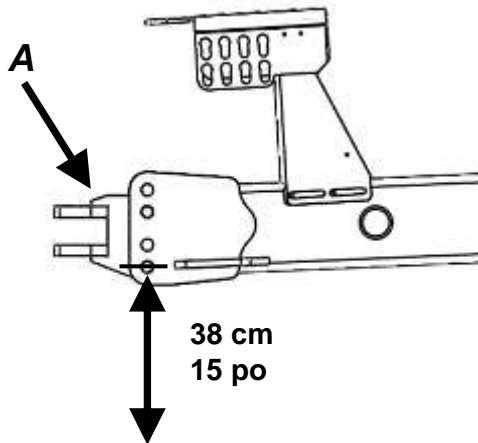

Figure 1
2. To level the applicator, the first hole of the adjustable hitch (starting from the ground) should be at 38 cm / 15 inches from the ground (For applicator with 380 / 80R38 tires) [Figure 1].
3. To adjust the height, use the holes offered on the adjustable hitch or reverse it for more configurations. [Figure 1, A]